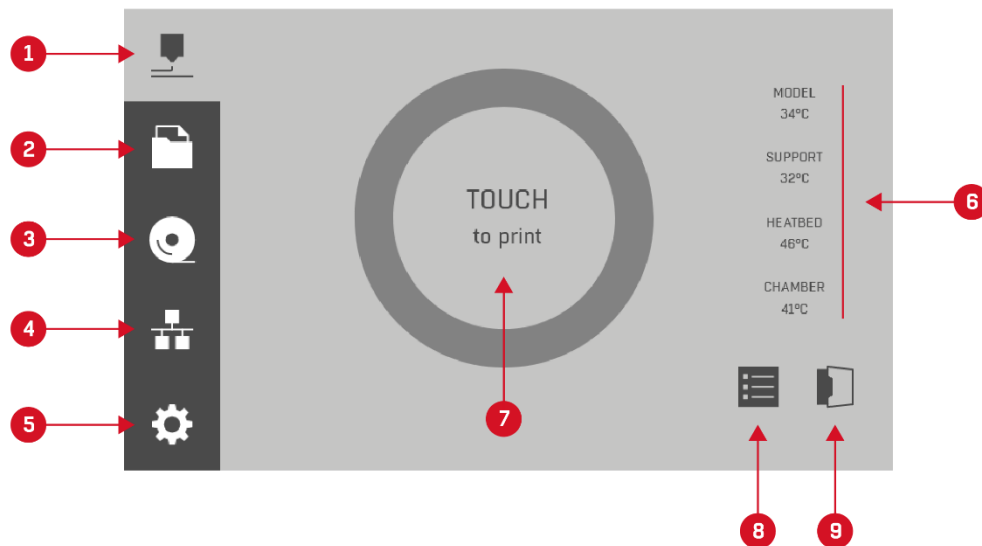

Fig. 26 Printer's main menu in idle state
Then, the display shows the printer's main idle state menu (Fig. 26).
1. **Main screen button** – after switching to other tabs, select this button to return to the main screen of the device (Fig. 26).